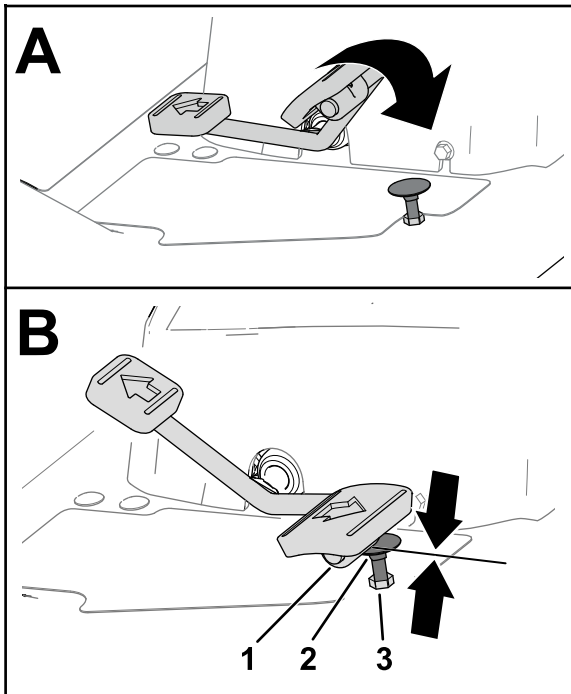
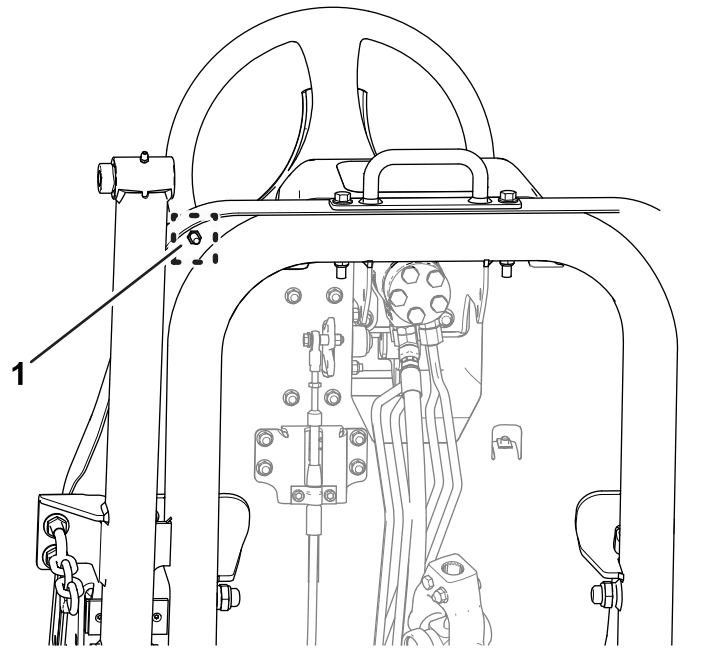

Figure 81
Figure 82
1. Move the traction pedal fully forward (Figure 81).
- A. Hold the traction-pedal stop (Figure 81) with a wrench.
- B. Loosen the jam nut at the bottom of the footrest plate (Figure 82).
- C. Move the traction pedal to the full forward position (Figure 81).
- D. While holding the traction-pedal stop, adjust the jam nut that is above the footrest plate (Figure 81) until the traction pedal makes contact with the stop.
- F. While holding the traction-pedal stop, torque the jam nut at the bottom of the footrest plate (Figure 81 and Figure 82) to 37 to 45 N·m (27 to 33 ft-lb).